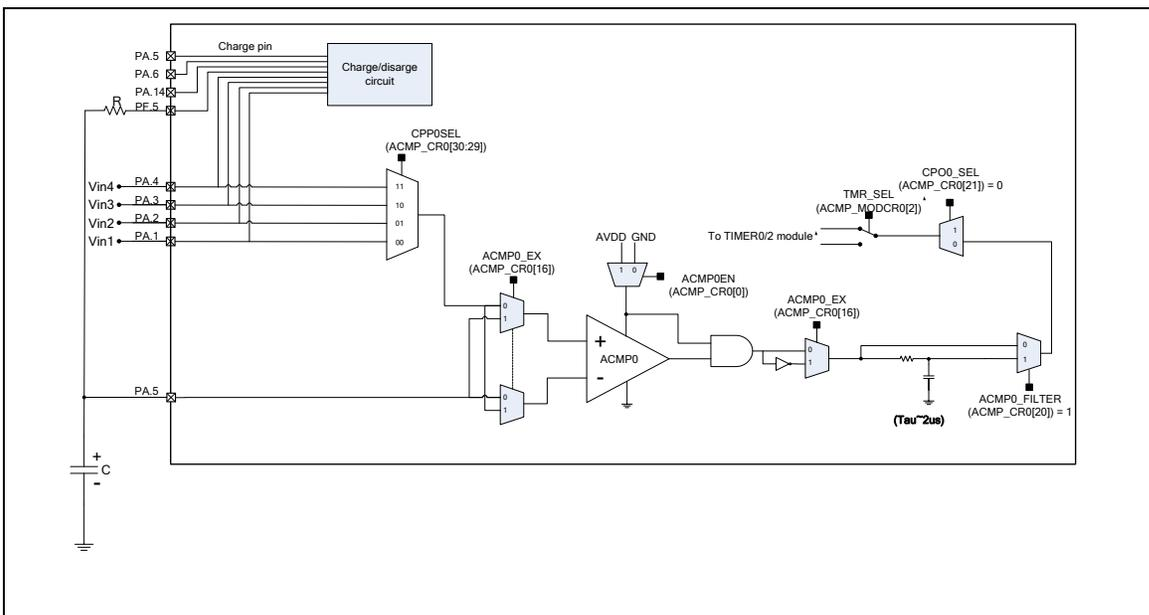

Figure 6-136 ACMP Sigma-Delta ADC Mode Reference Circuit
- **Phase I:** Drive “charge/discharge pin” high to charge capacitor (C in Figure 6-136) until the ACMP0_O reverses and then start TIMER0.